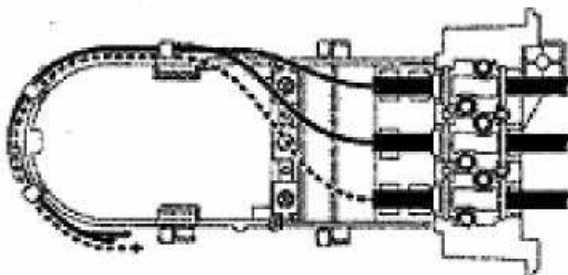

Figure 9a - Routing Express/Feeder Side Cables
14.01 Full Cut Cables (Loose Tube and Ribbon) Fiber bundles from the Express/Feeder cables or from Drop/Lateral cables can be safely routed into the flexible routing clips molded into the sides of the center section frame. It is recommended that loose buffer tubes be routed directly into and out of the transition area. (It is not necessary to transition the loose tube bundles into transition tubing. See *Figure 9a and 9b*).